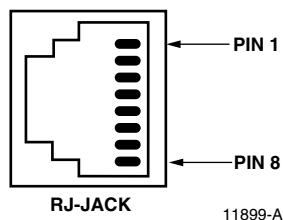

Figure 5. RJ45 Connector Wiring
8. Each media converter module has an RJ45 connector located on the front. Use this connector when making the copper Ethernet connection. RJ45 Patchcord pinout information is shown in Table 4 or Table 5 and Figure 5.
- b. The IEEE Standard ANSI/TIA-568-B for Ethernet 10/100BaseT(X) requires that two twisted pairs be used and that one pair is connected to pins 1 and 2, and that the second pair is connected to pins 3 and 6.